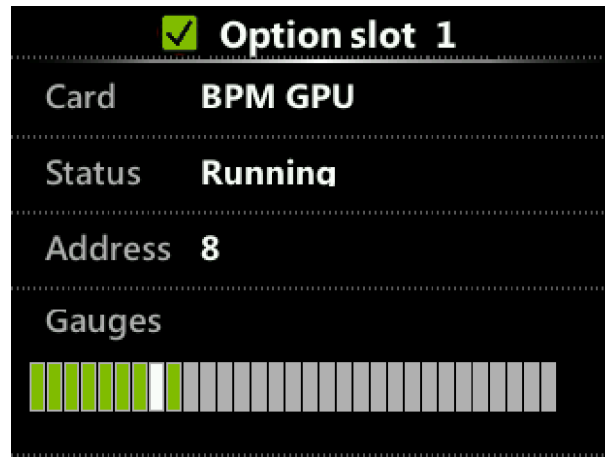

FIGURE 1-5
- Highlight the option slot for which you want to view the status using the display navigation keys. Next, press the **OK** display key. The *Option Slot* screen is displayed (see FIGURE 1-5). The name of the selected option slot is shown at the top of the screen preceded by the health state of the option slot.